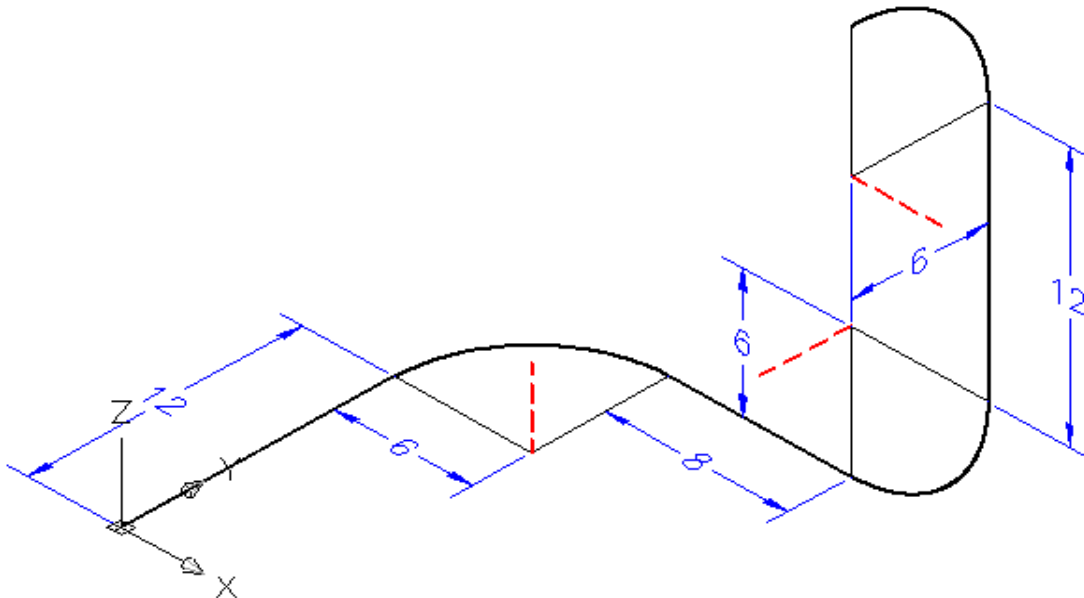
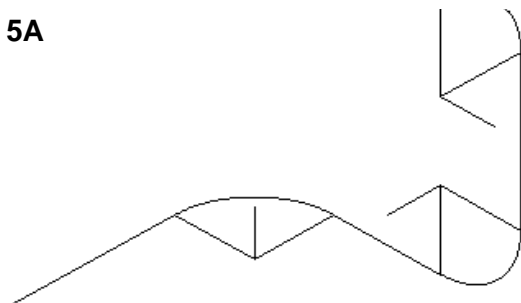

Figure Step 5A
Figure Step 5B
Step 5 Set layer Construction as the current layer and draw the model shown in Figure Step 5A. These are the construction lines and arcs to be used to construct the model. When complete, your model will appear as shown in Figure Step 5B. The length of the lines that appear dashed in Figure Step 5A is not important since they are axis lines only. You can draw them as continuous linetype.